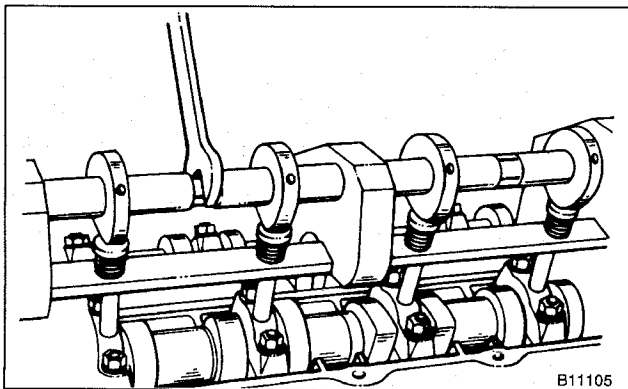

Fig. 2. Special tool (eccentric shaft) being turned to apply pressure to camshaft bearing caps.
5. Turn eccentric shaft on special tool until pressure is applied to camshaft bearing caps. See Fig. 2.